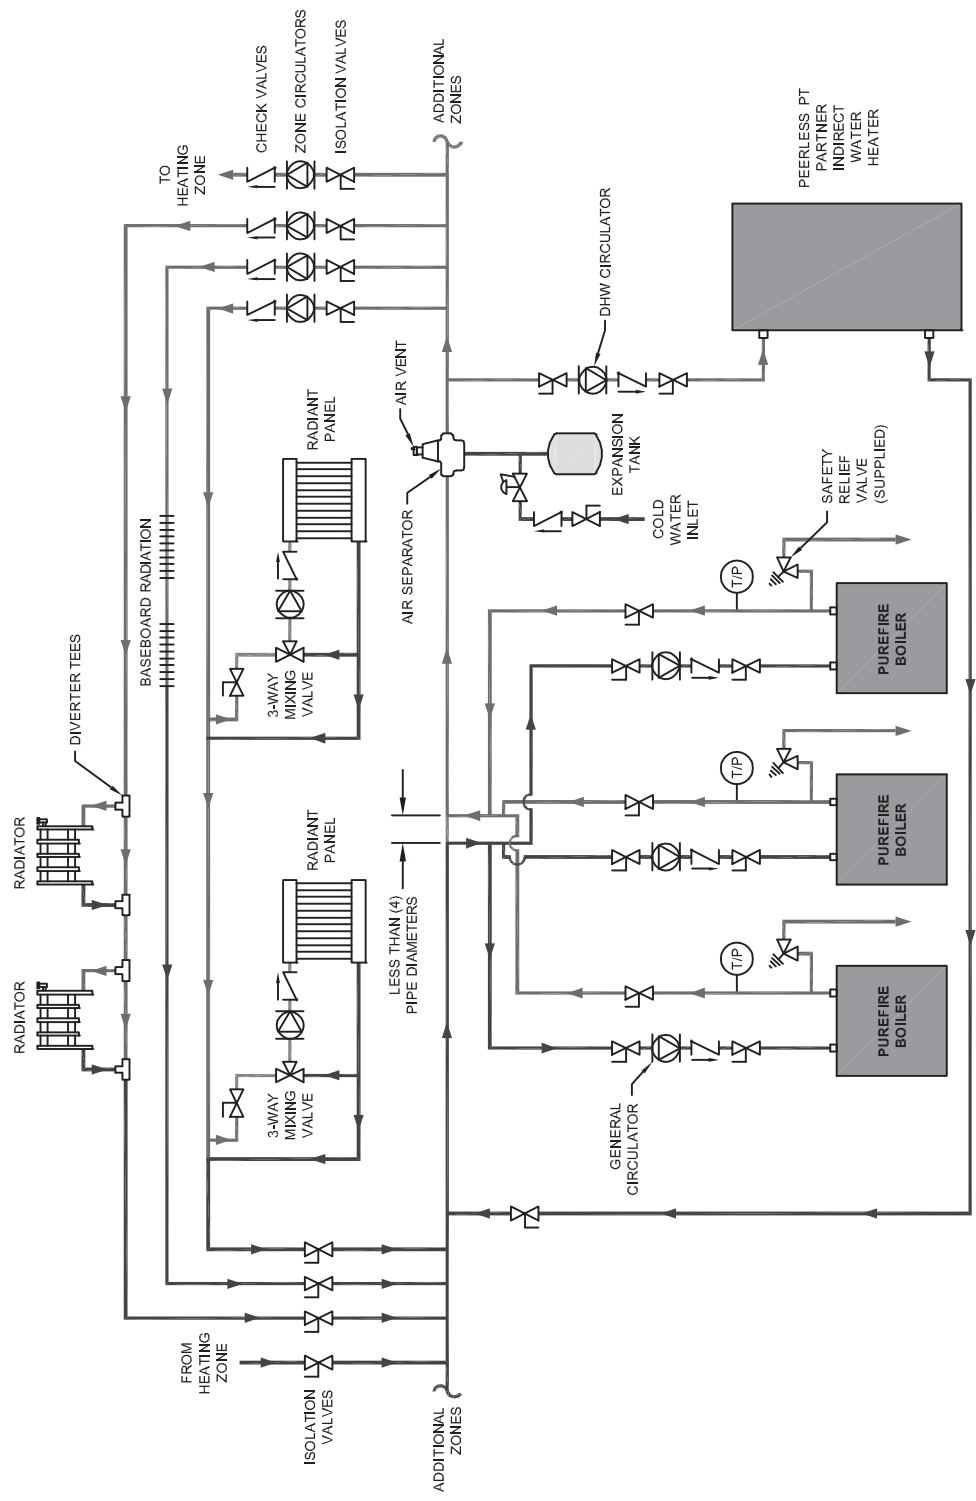

Figure 4.8: Three Boilers, Primary/Secondary with Five Zones (Zone Circulator)
4. Figure 4.8 shows a multiple boiler system with several different types of heat distribution units. This system illustrates how different temperature zones can be supplied from the same source by blending supply and return water to the zone.